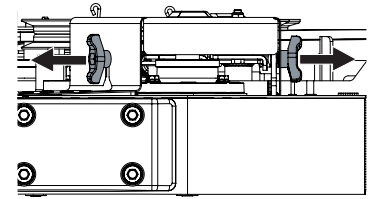

Figure 55
- Remove the hex thumb screws securing the belt covers to the deck. See Figure 55.